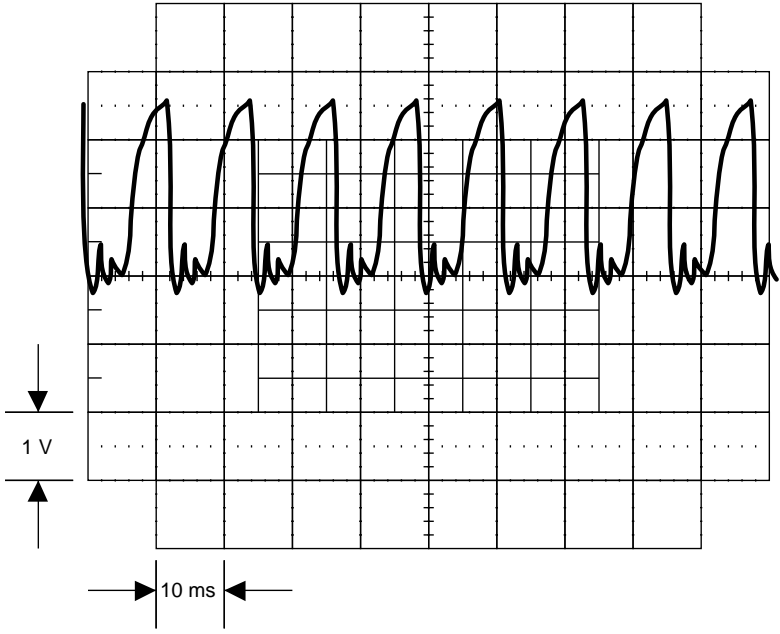

Figure 5-24. Waveform at Pin 4 of U10
5. Check the Clock to U14. Connect an oscilloscope to U10 pin 4 (common= TP3) and set it for 2V/div at 100 ns/div. Verify it displays a 8 MHz clock similar to Figure 5-24. If a failure is detected, check U10 and its associated components.